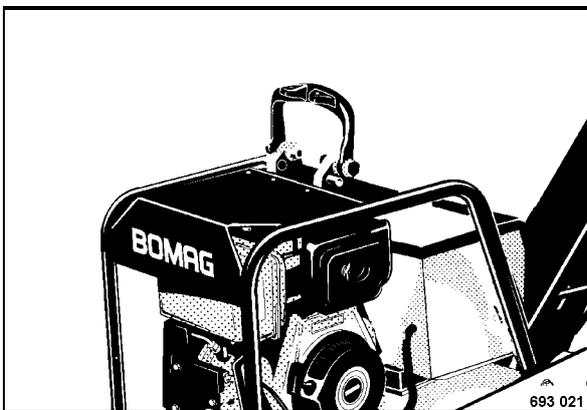

Fig. 47
- Fold the lifting hook (Fig. 47) up.